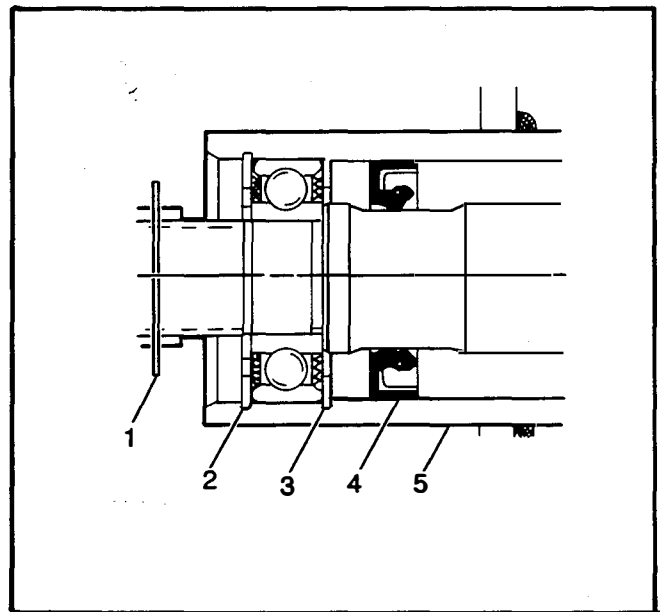
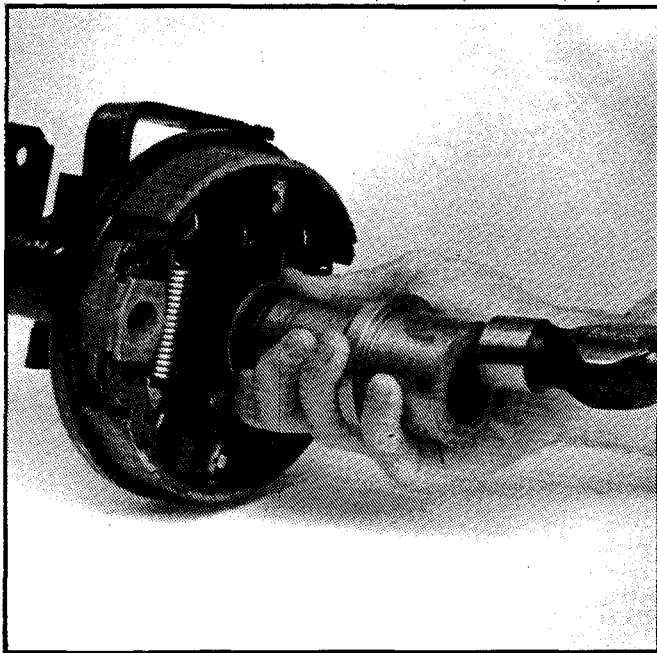

FIG. M-8
FIG. M-10
Use a puller to remove the seal (4). Fig. M-8 and M-9.
**CAUTION:** USE CARE TO PREVENT DAMAGE TO INNER SURFACE OF AXLE TUBE AT SEALING AREA. FIG. M-8.
To install the seal a special tool (P/N 18739-G1) is used to drive the seal into its proper position. Fig. M-8, Fig. M-10.